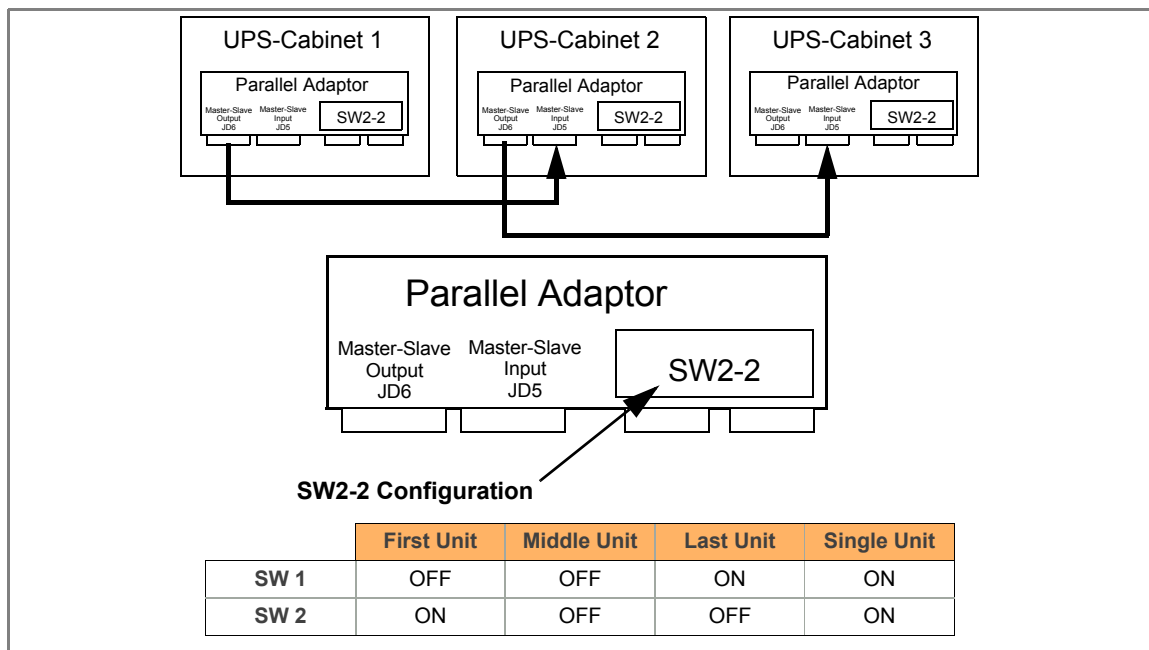

Figure 3.14 Bus-lines connections (3 Modules shown)
The communication bus cables are daisy-chained between each module, as shown below in figure 3.14. Once the cables are fitted, each module must be configured according to its position in the parallel system.
3. Set DIP Switch SW2-2 on each Parallel Adaptor according to the UPS cabinet's position in the parallel configuration (See Figure 3.14).